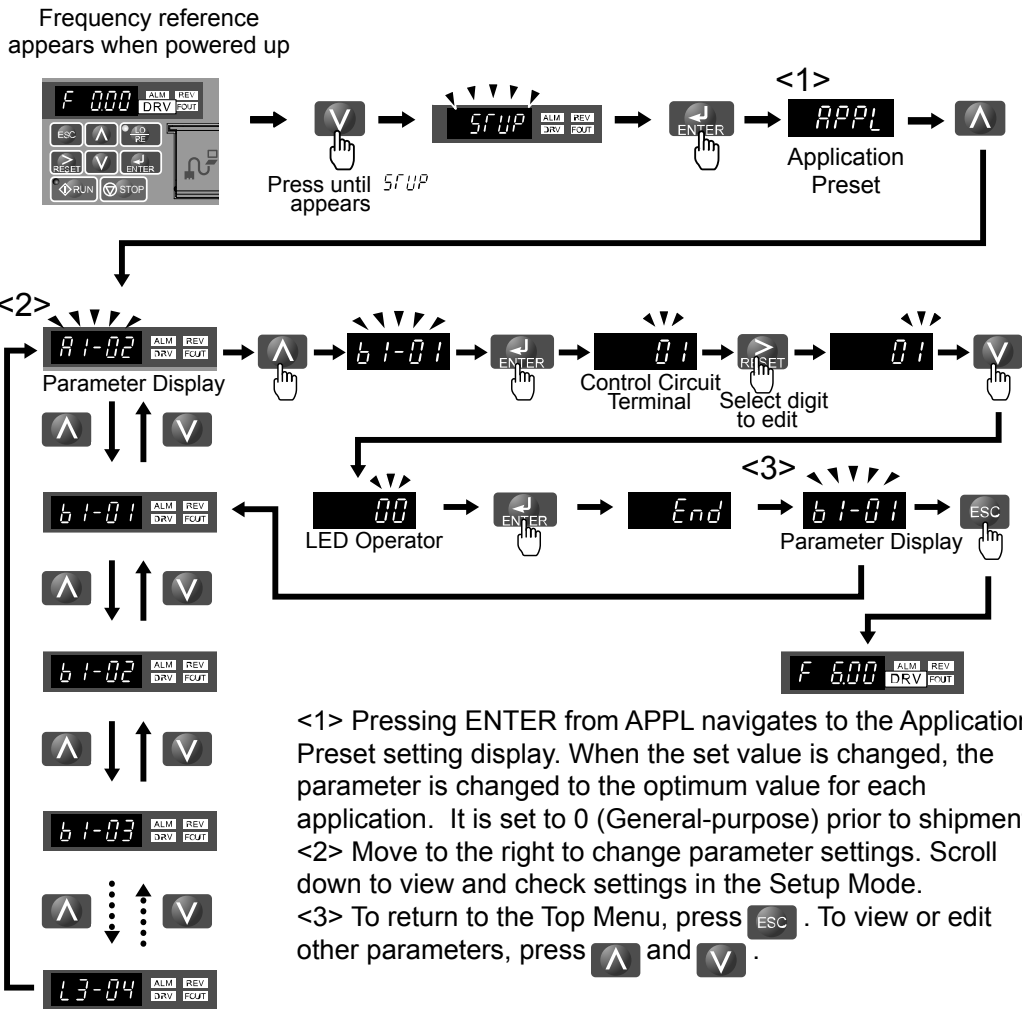

Figure 4.5 Setup Group Example
**Figure 4.5** illustrates the keys to press to enter the Setup Group.